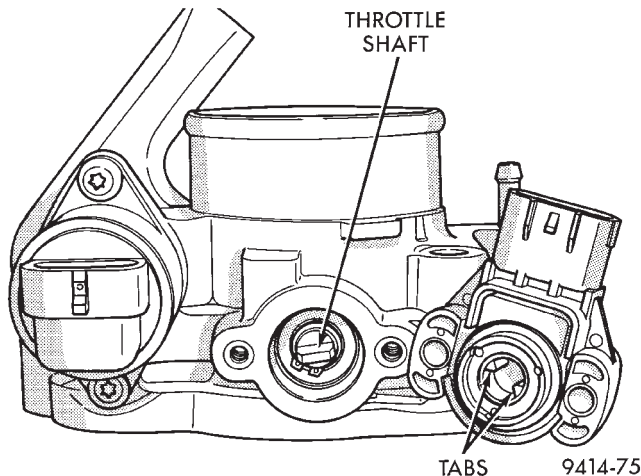

Fig. 69 Throttle Position Sensor Installation
(1) The throttle shaft end of the throttle body slides into a socket in the TPS (Fig. 69). The socket has two tabs inside it. The throttle shaft rests against the tabs. When indexed correctly, the TPS can rotate clockwise a few degrees to line up the mounting screw holes with the screw holes in the throttle body. The TPS has slight tension when rotated into position. If it is difficult to rotate the TPS into position, install the sensor with the throttle shaft on the other side of the tabs in the socket. Tighten mounting screws to 2 N·m (17 in. lbs.) torque.